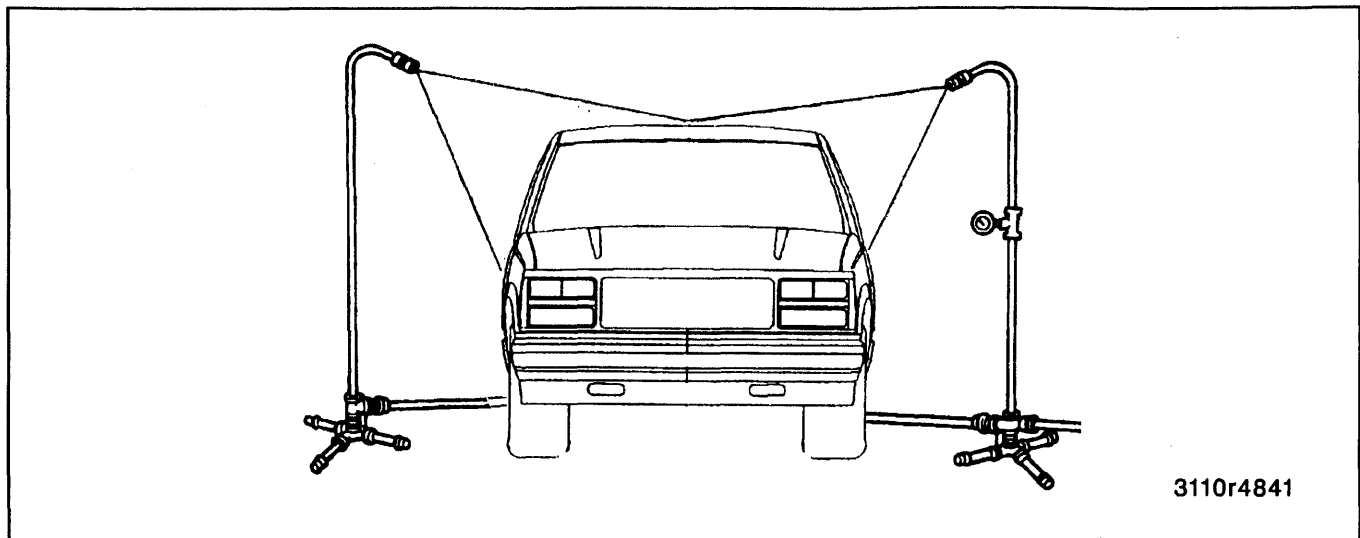

Figure 18—Water Leak Test Stands
1. Position the stands as shown in figures 18 and 19. Water spray from the stands should overlap on the vehicle.